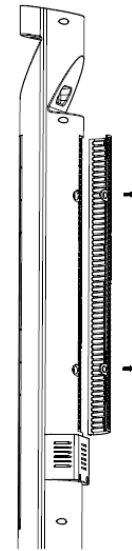

Fig.2
4. Filter of air outlet can be detached to clean. Wash the filter directly under the running water and then dry it completely. After cleaning, spin 2 screws back to the position. (Fig.2)